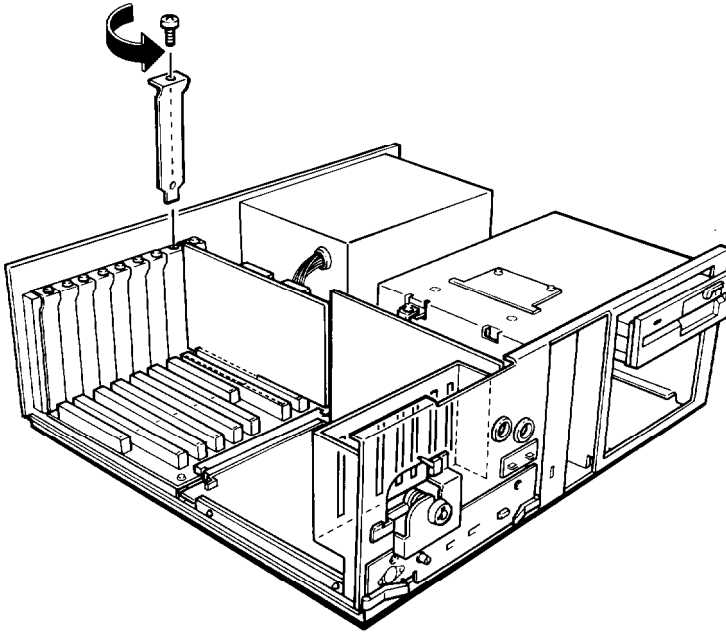

Figure 4-6. Removing an option slot cover
1. Decide which option slot you want to use. If the card has an external connector (such as a monitor card) you need to remove the option slot cover at the back of that slot. See Figure 4-6. Remove the retaining screw from the top of the metal option slot cover and keep it to secure the option card to the computer. Lift out the slot cover and keep it in a safe place in case you remove the option card later.